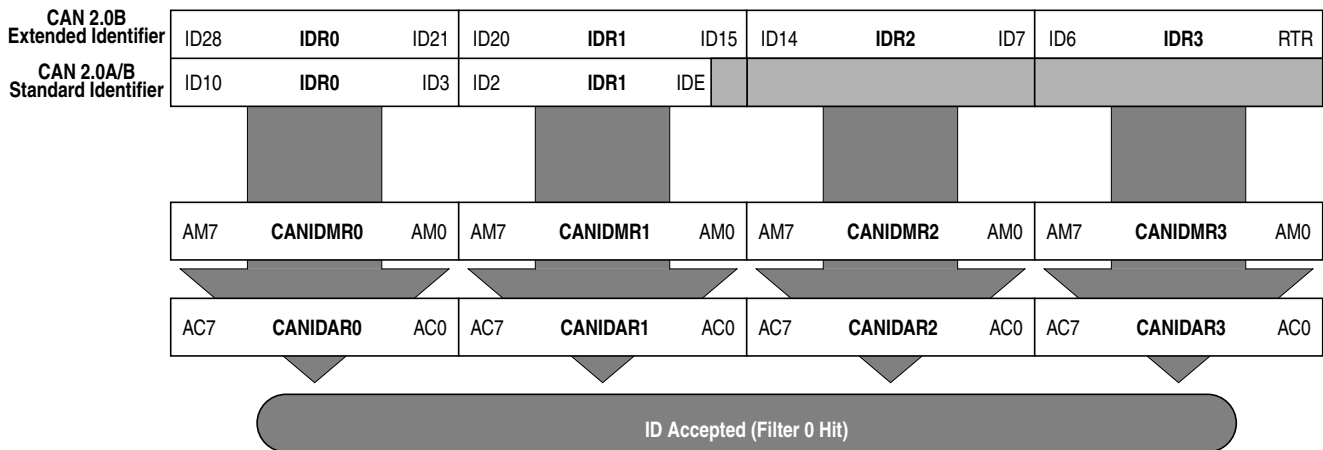

Figure 16-40. 32-bit Maskable Identifier Acceptance Filter
- Figure 16-40 shows how the first 32-bit filter bank (CANIDAR0–CANIDAR3, CANIDMR0–CANIDMR3) produces a filter 0 hit. Similarly, the second filter bank (CANIDAR4–CANIDAR7, CANIDMR4–CANIDMR7) produces a filter 1 hit.